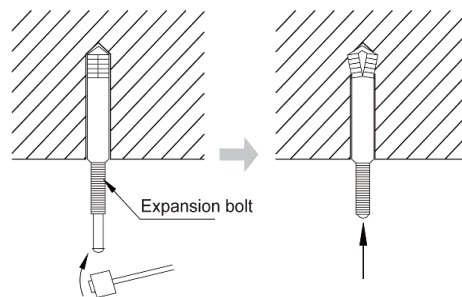

Fig5
- d. Insert the M10 expansion bolt into the hole and hammer the nail into the bolt, as shown in Fig5.